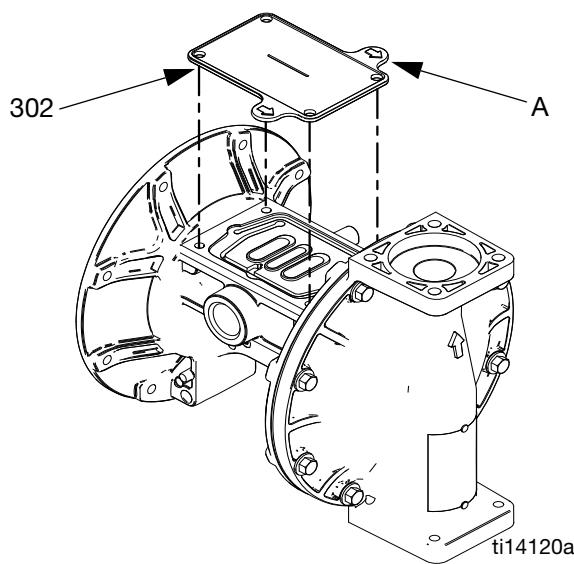

FIG. 9. Fluid cover tool
- See FIG. 9. Place the supplied tool (302) where the air valve gasket (108) normally goes. Arrows (A) must face toward the fluid cover that is already attached.